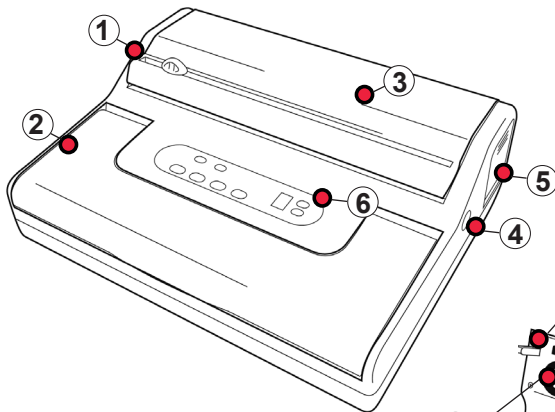

Figure 1.
This sealer is equipped with a roll holder storage space (Figure 1, point 3) compatible with 20 x 600 cm and 30 x 600 cm Elma rolls. Up to 2 rolls can be placed inside. To insert the rolls in their space the roll holder opening button must be pressed (3). Then, place the roll in the space, unroll approximately 20 cm of the roll, inserting the edge of the roll through the opening where the roll-cutting blades are located (Figure 1, point 3).
- **Accessory function:** this function enables production of vacuums in special recipients. Connect the suction tube to the recipient connector (Figure 1, point 5) and the other end to the recipient (the suction tube and recipients are not included in the vacuum sealer). Press the “**Accessory**” key once the connections are in place to begin the suction process. Once the maximum vacuum level is reached the machine will stop automatically. The recipient may then be disconnected. This function can only be used with accessories designed especially for vacuum packing.
- **Marinate function:** food may be marinated in special recipients using this function. Insert the food to be marinated along with the seasoning into the recipient. **Important: ground spices which are not well mixed with the sauce may obstruct or cause serious damage to the vacuum pump.** Connect the suction tube to the recipient connector (Figure 1, point 4) and the other end to the recipient (the suction tube and recipients are not included in the vacuum sealer). Press the “**Marinate**” key once the connections are in place to begin the suction process. Pressing the “**Marinate**” key once selects the short programme (15 minutes). Pressing a second time selects the long programme (27 minutes). The vacuum sealer will begin suction and air impulse sequences which enable the seasoning to penetrate the pores of the foodstuff. This function can only be used with accessories designed especially for vacuum packing.